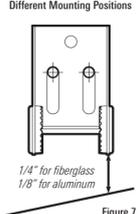

Figure 7
2. Hold the mounting bracket against the transom of the boat in the location you have selected (Figure 6). Align the bracket horizontally, using the level. Make sure that the lower corner of the bracket does not protrude past the bottom of the hull, and there is at least 1/4" (6 mm) clearance between the bottom of the bracket and the bottom of the transom for fiberglass boats, and 1/8" (3 mm) clearance for aluminum boats (Figure 7).